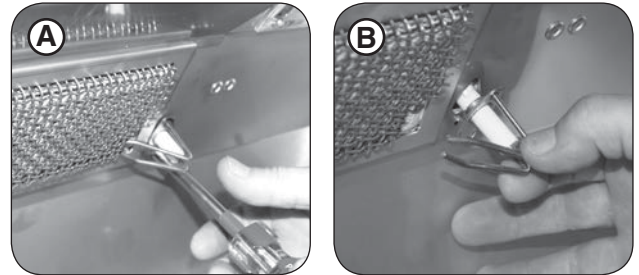

Fig. 31-2 Remove electrode
1. Remove the backburner electrode mounting screw (1/4" hex) (see Fig. 31-2, A) and loosen the electrode. Carefully pull the electrode assembly slightly from the grill wall to give enough clearance for the backburner to be removed (see Fig. 31-2, B).